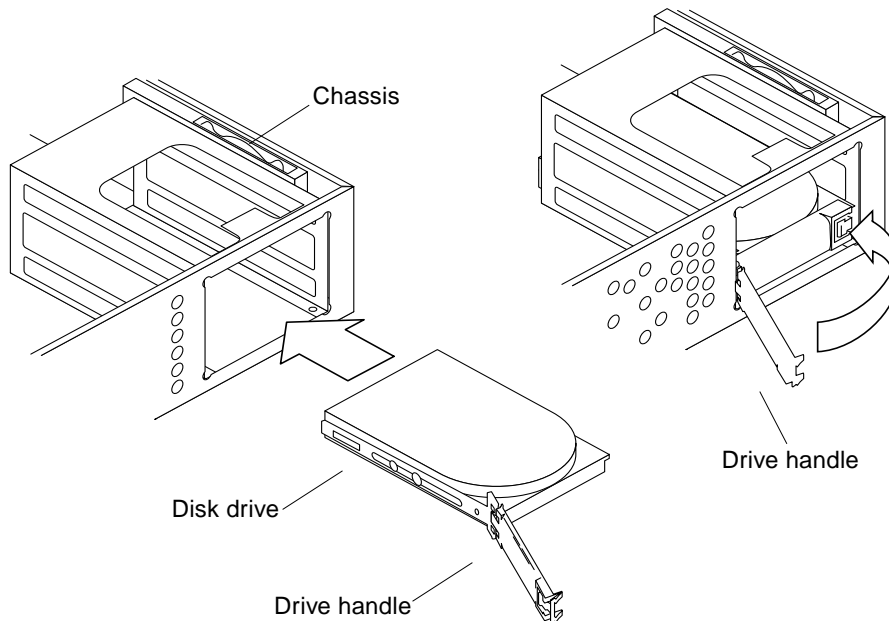

FIGURE 9-3 Replacing the Disk Drive
1. With the drive handle open, press on the disk drive end and insert the disk drive into the chassis; connect the disk drive to the backplane assembly (FIGURE 9-3).